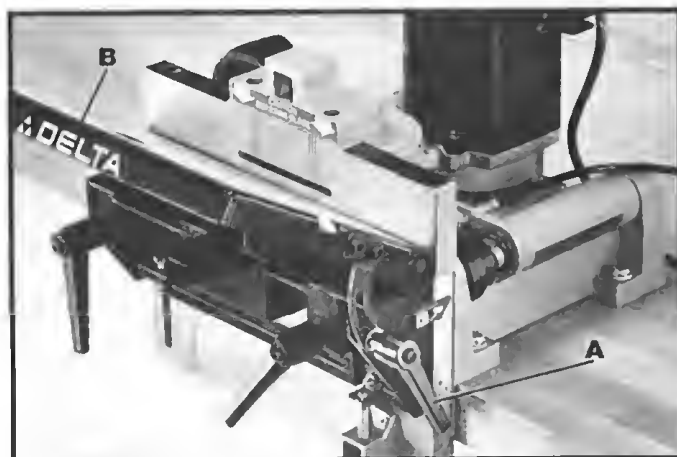

Fig. 22
The table on your machine can be tilted to accommodate workpieces with beveled edges by loosening handle (A) Fig. 22, tilting the table (B) to the desired angle and tightening handle (A). **NOTE:** Handle (A) is spring loaded and can be repositioned by pulling out on the handle and repositioning it on the nut located underneath the hub of the handle.